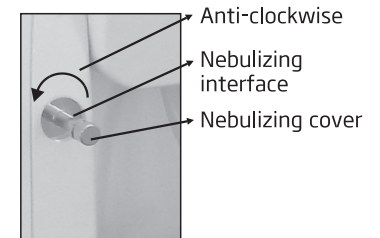

Figure 6
- › Upward pull out the nebulizing cover on the nebulizing interface. (Figure 6)